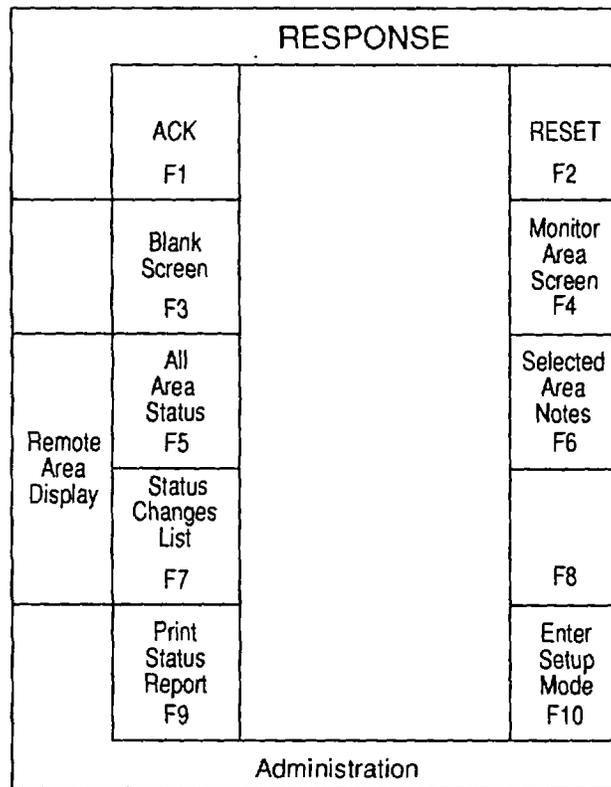

Figure 2-5. Keyboard Templates (typical).
2.5.4 Keyboard Operational Keys. The keyboard is the interface between an operator and AMG. The operator uses selected keys from the keyboard to react to various prompts from the AMG. Templates (figure 2-5) are provided for two styles of keyboards. Table 2-4 provides a listing of all the operational keys. Minimal operating procedures are provided in paragraph 2.5.5. The operation from the keyboard is as follows: